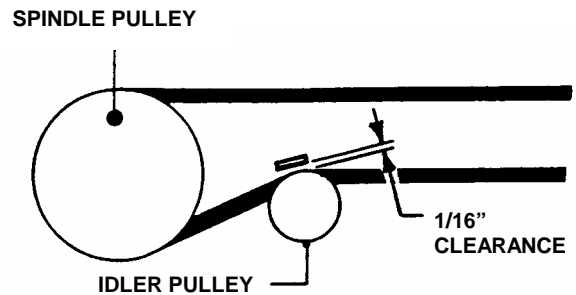

FIGURE 4.33
7. Adjust idler pulley belt guide if necessary to obtain 1/16" clearance between belt and belt guide. See Figure 4.33